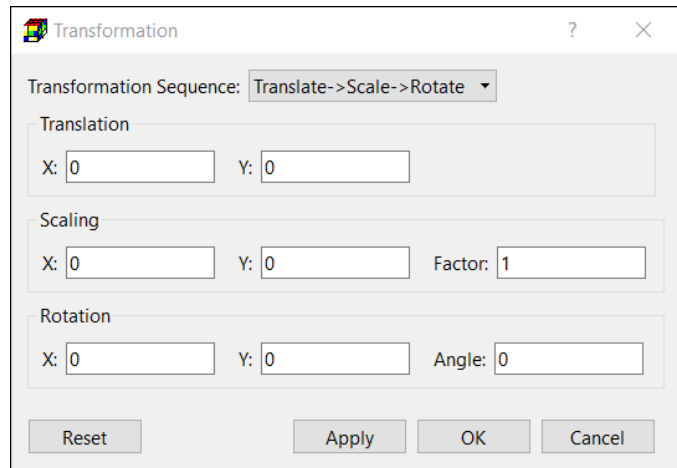

Figure 9. The Transformation dialog box
- **Transformation:** When the Geographic coordinate system (see Section 3.5.12) is used, Transformation is deactivated as the loaded shapefile is projected using its geospatial information data (proj file). When the Cartesian coordinate system is used, the loaded shapefile cannot be projected. However, you can use the Transformation dialog box (Figure 9) to transform the coordinates of all points in the shapefile. The options of the dialog box are as follows.